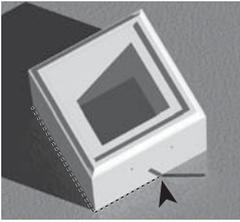

FIGURE 1A
**A)** Temporarily position NEWEL POST BOTTOM SECTIONS and mark layout lines on floor surface (FIG. 1A). This positioning is important in order to get accurate measurements between the NEWEL POST BOTTOM SECTIONS.